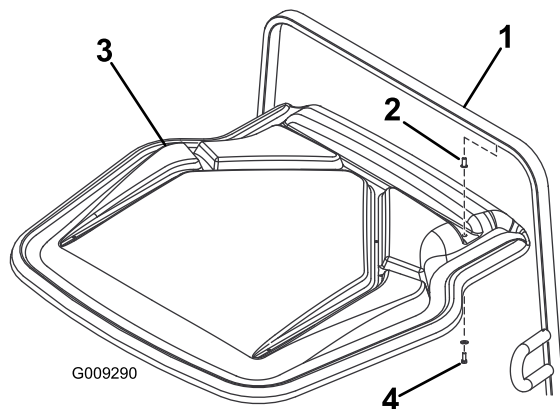

Figure 8
9. If your machine has a ROPS, mount the clinch nuts into the holes in the ROPS (Figure 8).
- B. If your machine does have a ROPS, secure the canopy to the ROPS frame using 2 bolts (3/8 x 1 inch) and 2 flat washers (3/8 inch) in the clinch nuts installed previously (Figure 8).